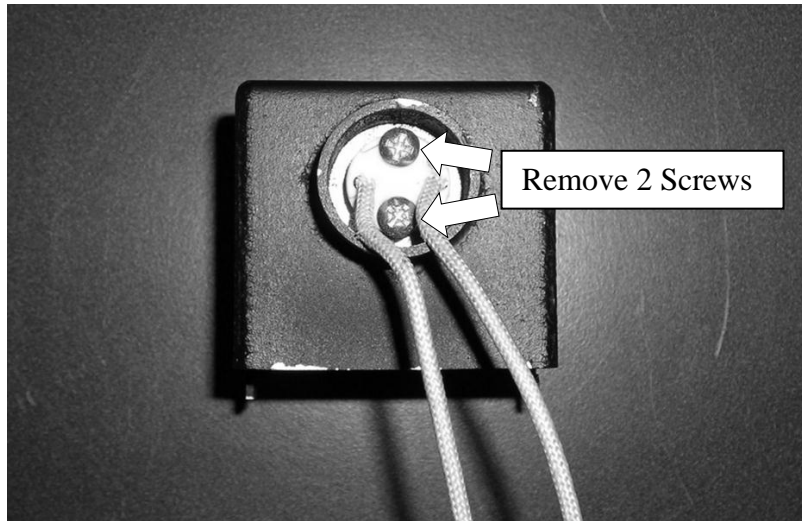

Figure 2
2. Turn the Mounting Box so the light socket is facing you. Carefully remove the two screws that mount the light socket to the Mounting Box. (See Figure 2) The Light Mounting Box should now be free to remove from the insert. Locate the new Light Mounting Box from this kit. Ensure the wires on the light socket are securely pushed into the sockets on the light housing. If they are not, carefully push the wires into the holes until they are firmly in place. Mount the socket into the new Light Mounting Box using the same screws.